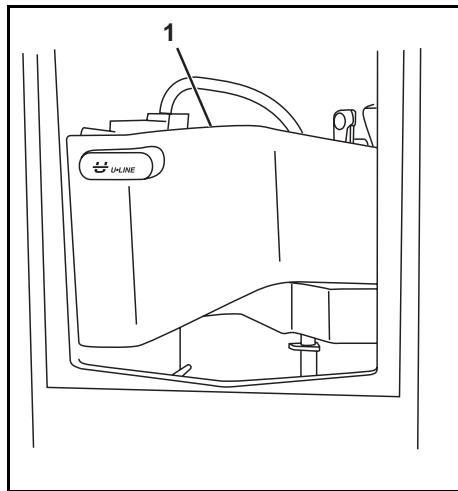

Figure 19
2. Remove inside front cover by gently pulling away from sidewall (**Figure 19**).